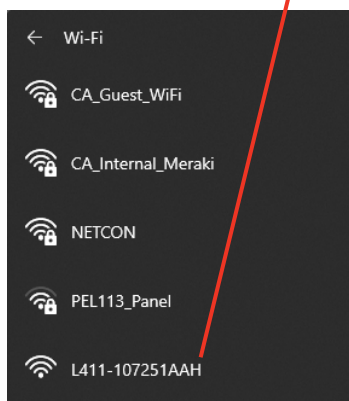

Figure 11
- Connect the PC to the router as explained in Figure 11.